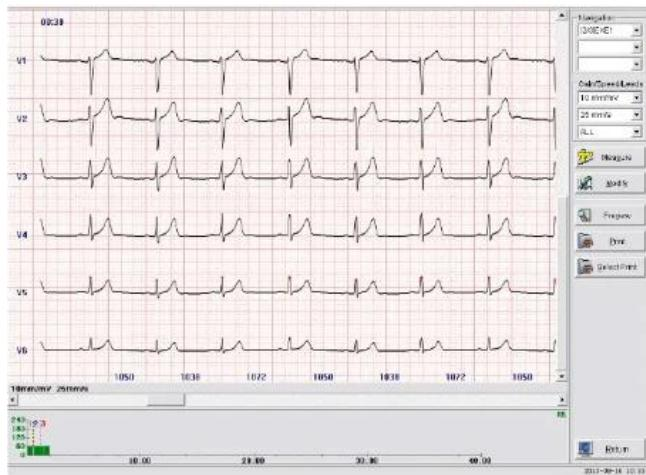

Fig.5-25 Multi Lead Review
2. Under all leads display mode (as Fig.5-25): time (format: min:sec") is showed on the top left corner, lead name is on the left side of every waveform, under the waveform is periods of